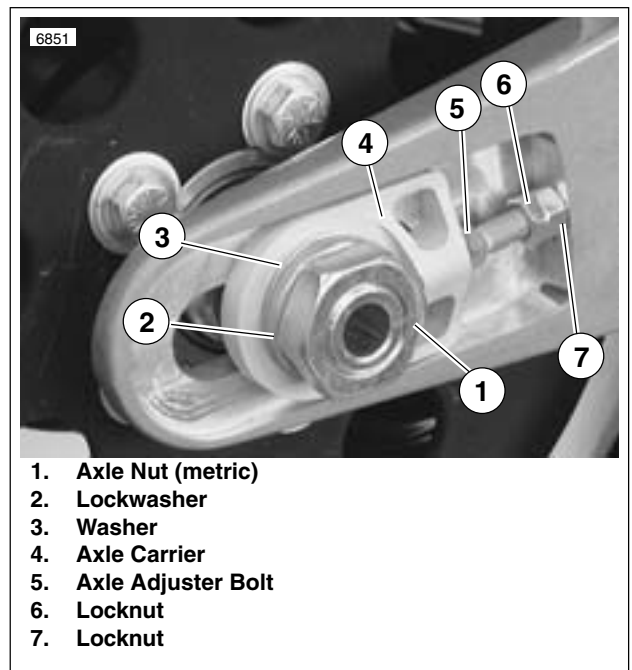

Figure 2-9. Axle, Right Side
- c. See Figure 2-9. Place axle carrier (4) into position on the right side of the swingarm. Slide axle through axle carrier and swingarm.
- d. Place washer (3) on axle with rounded side facing swingarm. install lockwasher (2) and axle nut (1) (metric). Do not tighten rear axle nut at this time.
5. Tighten rear axle nut (1) (metric) to 66-73 ft-lbs (90-99 Nm).